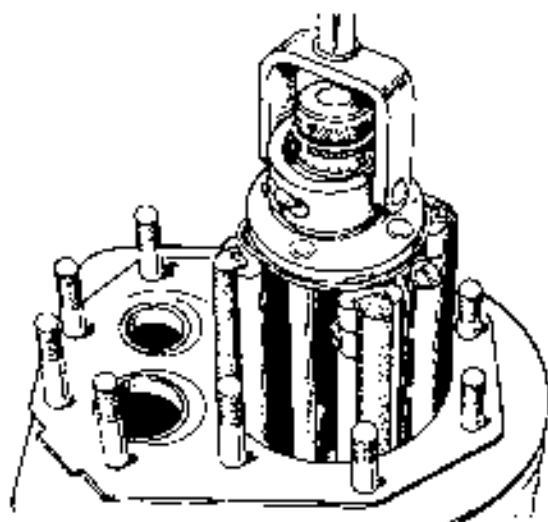

FIGURE 16-16. HONING CYLINDER
1. A hone can be used to rebores a cylinder. Figure 16-16. Remove stock to 0.002 inch (0.051 mm) less than finished bore with coarse hone (100 grit), then complete honing with finish hones (300 grit).